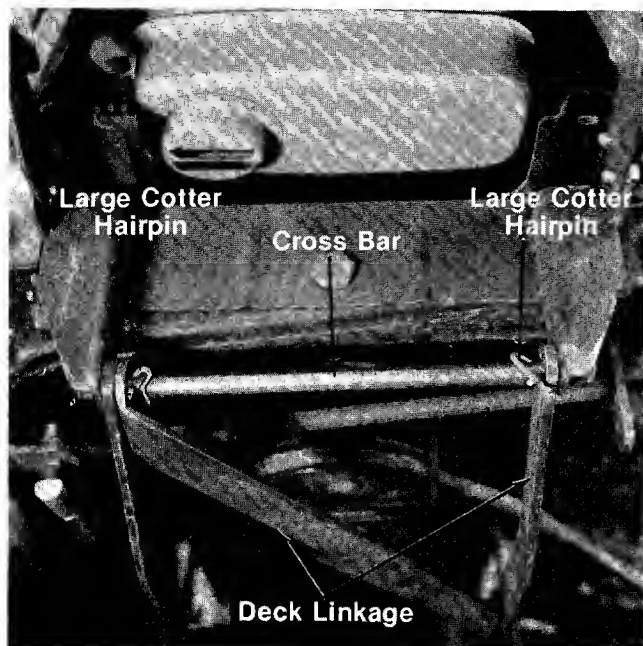

FIGURE 8.
10. Assemble the front cross bar as shown in figure 8 using two large cotter hairpins to attach the deck linkage to the tractor frame.